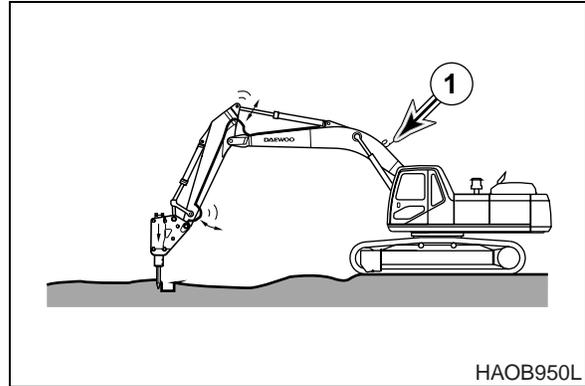

Figure 73
5. DO NOT use the breaker if the hydraulic hoses vibrate excessively. See Figure 73. Check the breaker's hydraulic accumulator (1) for damage and repair as required. If excavator is operated under this condition, structural and hydraulic components can be damaged.